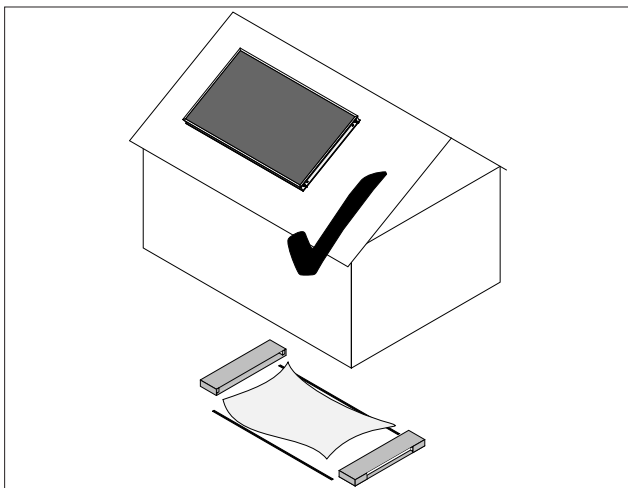

Figure 4 Remove glass protection film before installing collector!
- Remove glass protection PE-LD film before commencing installation work! (figure 4).